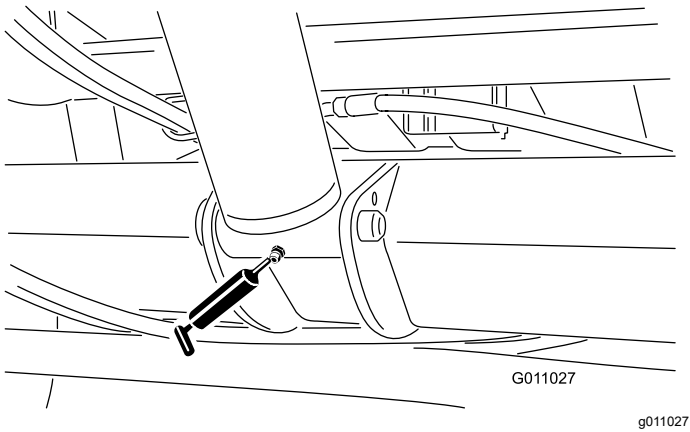

Figure 35
- Lift cylinder (2) (Figure 35)